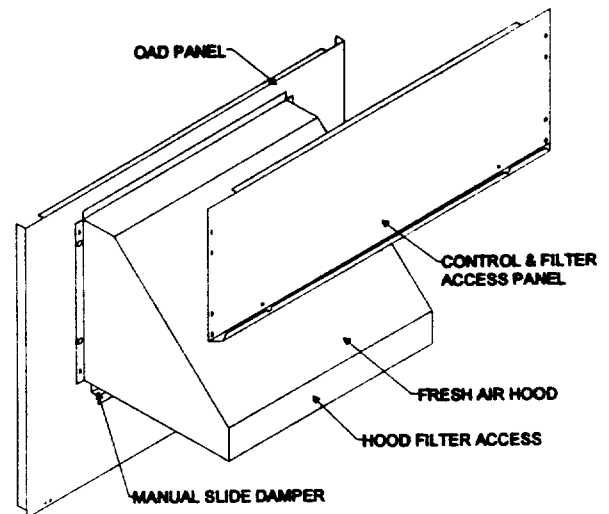

FIGURE 1
- 3—Assemble fresh air hood. See Figure 1.